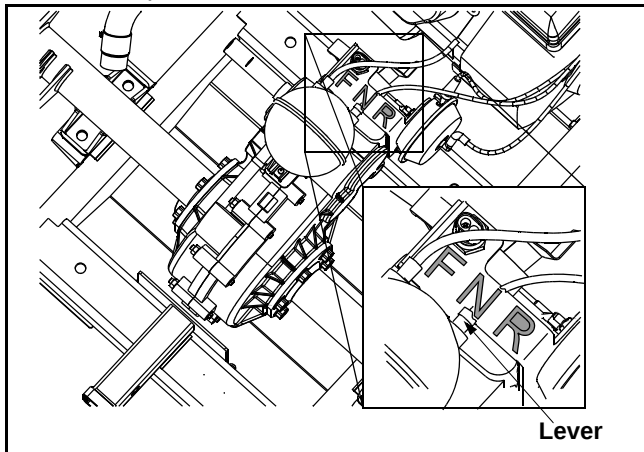

Figure 11
- Engage the parking brake, raise and secure cargo box, and move lever to the forward position. See Figure 11.